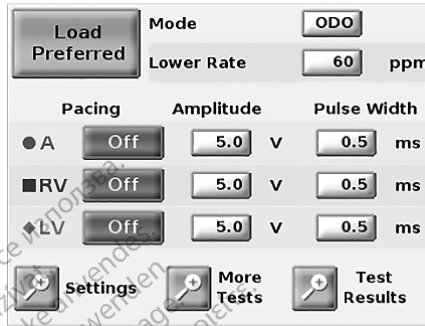

Figure 9. PSA Pacing and Output panel
To load saved settings with one click, press the Load Preferred button in the PSA Pacing and Output panel ("Figure 9. PSA Pacing and Output panel" on page 18).
- PSA Pacing and Output panel (Figure 9 on page 18)